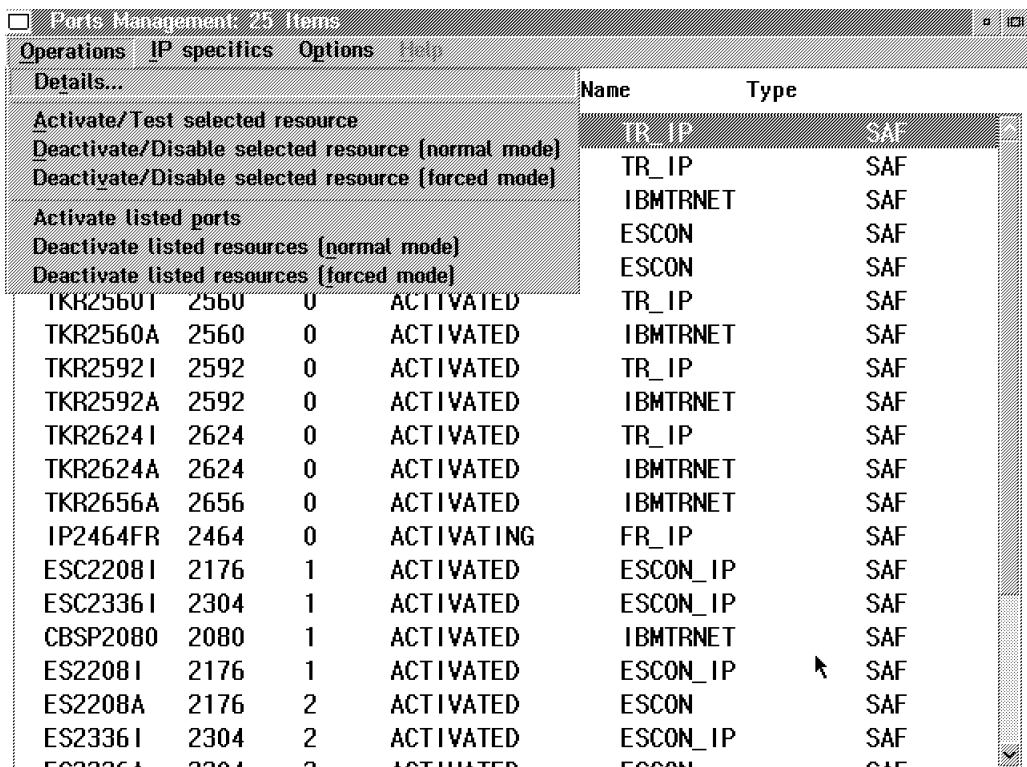

Figure 15-4. Operations Menu for APPN Ports Management
- Step 3.** **Operations** menu → **Details** (see Figure 15-4).
You can activate or deactivate ports as required (see Figure 15-4).